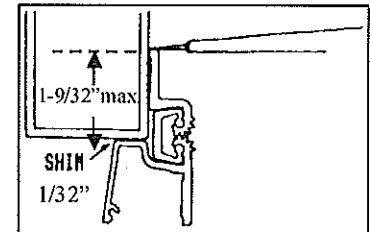

Fig. 2
2. For maximum inset, fully open the hinge to 180 degrees. With a 1/32" shim in place on the frame face, hold the hinge tight against the frame and scribe the inset line (Fig 2).